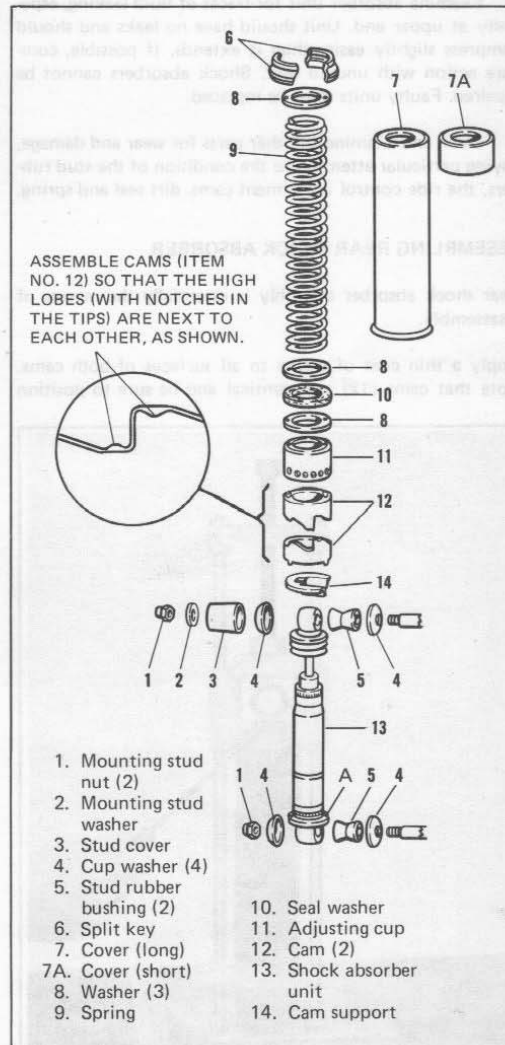
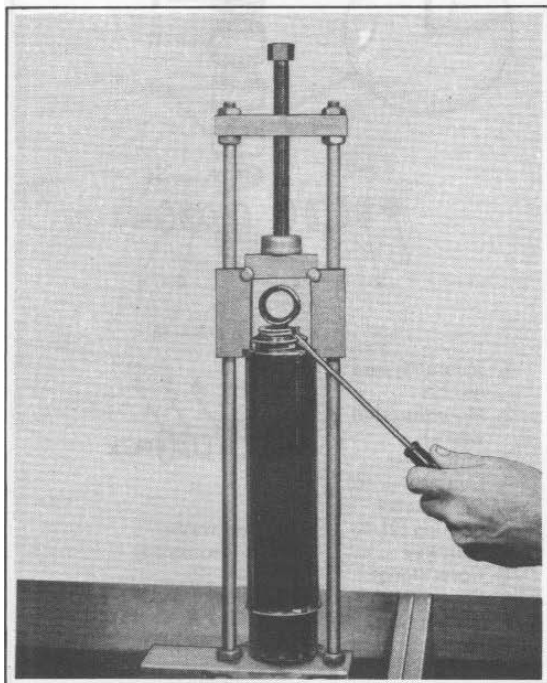

Figure 2-38. Later Rear Shock Absorber — Exploded View
Figure 2-39. Disassembling Shock Absorber
DISASSEMBLING REAR SHOCK ABSORBER (Figure 2-38)
Remove top and bottom mounting stud nut (1), mounting stud washer (2), upper stud cover (3) and cup washer (4). Slip shock absorber assembly off upper and lower studs. Push rubber bushings (5) from shock absorber mounting eyes. Place shock absorber in Rear Shock Absorber Tool, Part No. 97010-52A with split key (6) up. Compress absorber spring enough to remove each half of split key (6) from flange on shock eye as shown in figure 2-39. Release spring compression and remove absorber assembly from tool. Remaining items can be removed in order shown in figure 2-38.
cam lobes correctly as shown in figure 2-38 inset. Place assembly in compressor tool and compress spring enough to install key halves (6). Release spring compression. Keys will lock into place in inside diameter of covers 7 or 7A.
Install each shock absorber on motorcycle with slot in cam support (A, figure 2-38) facing toward wheel.